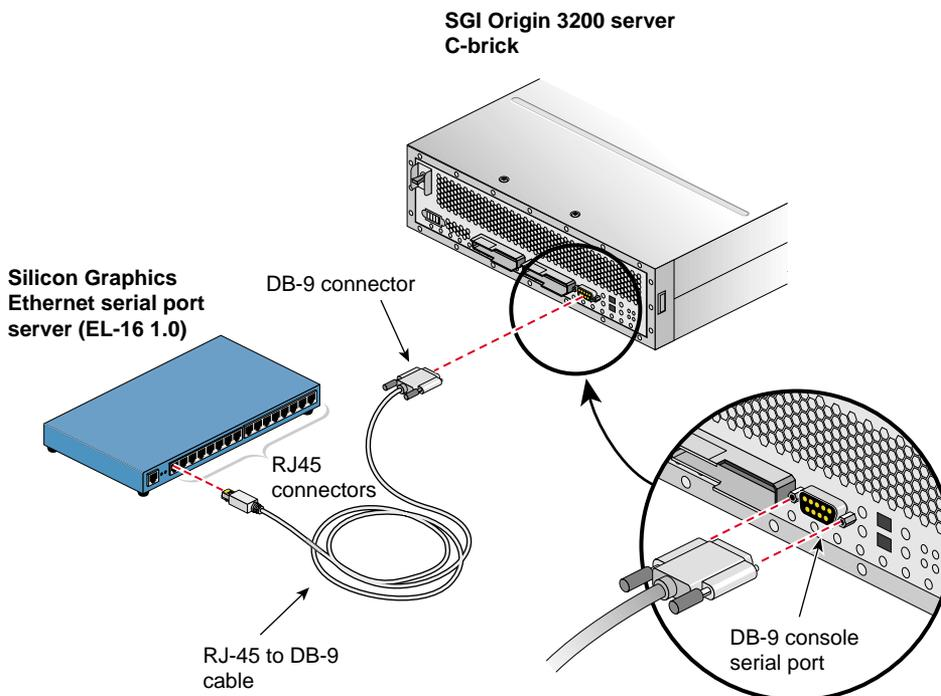

Figure 2-31 Connecting the Serial Port Server to the SGI Origin 3200 Server Console Port
5. Connect the RJ-45 end of one of the RJ-45 to DB-9 cable to one of the RJ-45 serial jacks in the Silicon Graphics EL serial port server. Connect the DB-9 connector to the SGI 3200 serial port jack labeled "Console." See Figure 2-31.